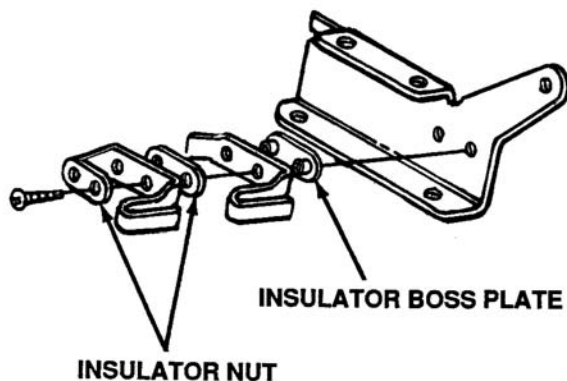

Figure 3-6. Safety Switch Insulator Nut Plates
- The seat safety switch insulator nut plates have been redesigned to reduce the chances of a direct short. This will retrofit 1990 production units. See Figure 3-6.